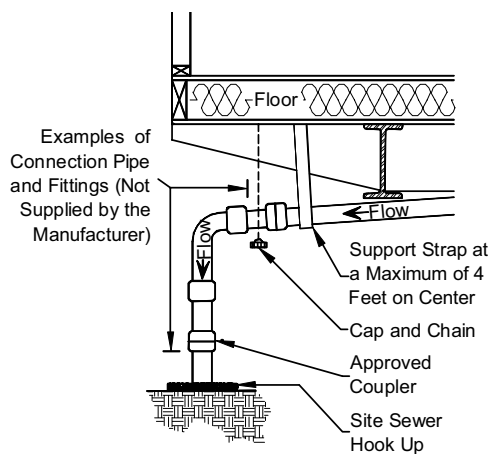
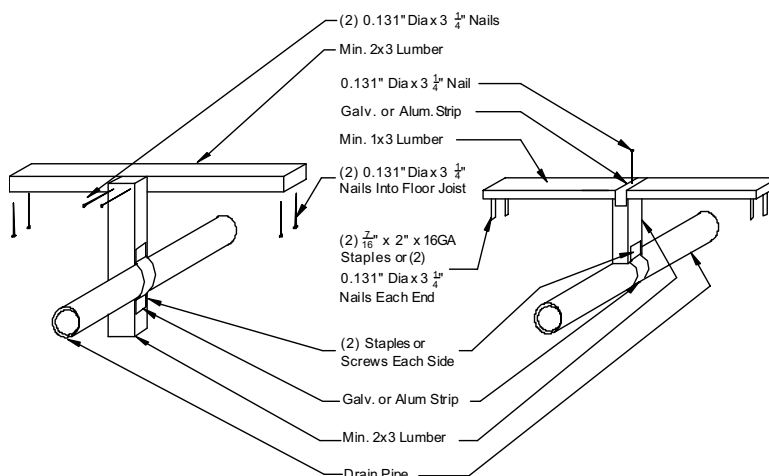

Figure 65. DWV connection to sewer/septic
Figure 66. DWV pipe support options
- 4. Connect to outlet.** Connect the main drain line to the site sewer/septic hook-up, using an approved elastomer coupling (**Figure 65**).
- 5. Install supports.** Install permanent drain line supports at a distance of four feet o.c. or less (see **Figure 63**, **Figure 65**, and **Figure 66**).